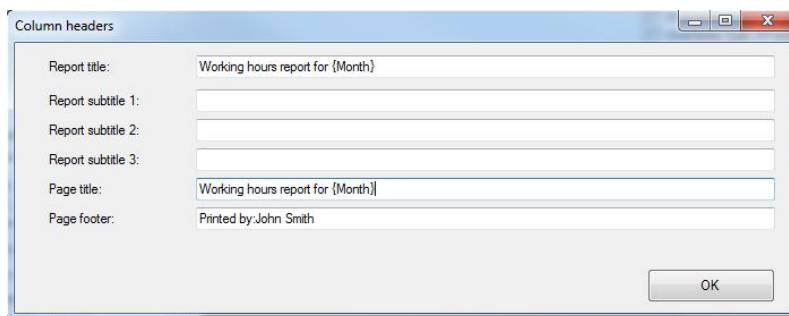

Figure 31. After modification of report headers
10. Change settings as shown in figure 31.